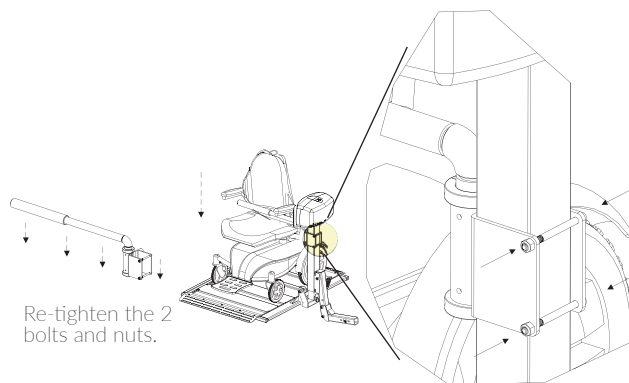

Figure 6-13
4. Lower the platform approximately 2" to 3" and allow the arm to drop along with the seat. Retighten the two bolts and nuts. *Figure 6-13.*